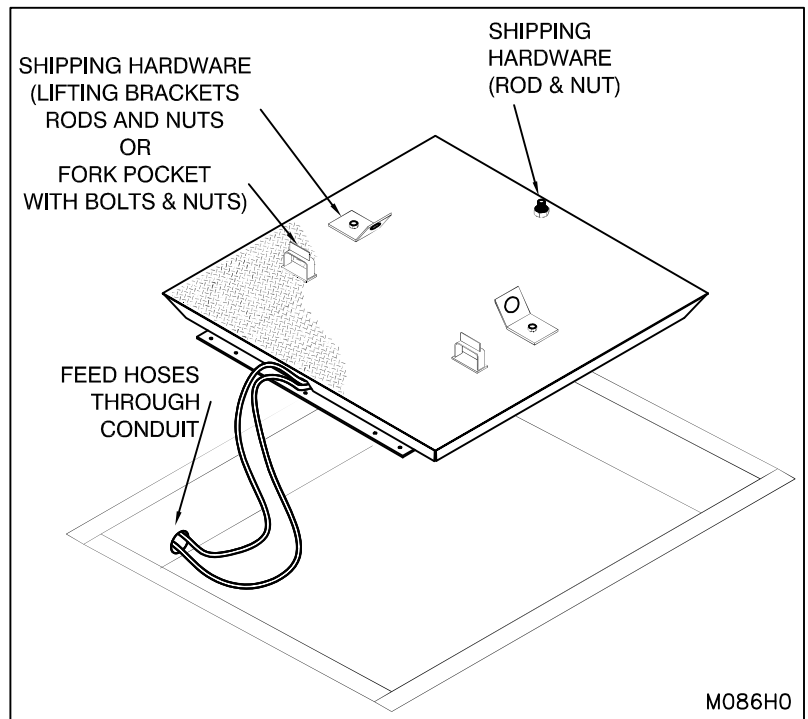

Figure 3: Moving the Dock Lift
Hoist the dock lift into the pit. At the same time, feed the hydraulic hose through the conduit from inside the pit toward the power unit. (See "Figure 3: Moving the Dock Lift" on page 4)
6. Remove all shipping bolts and hardware. (See “Figure 3: Moving the Dock Lift” on page 4).